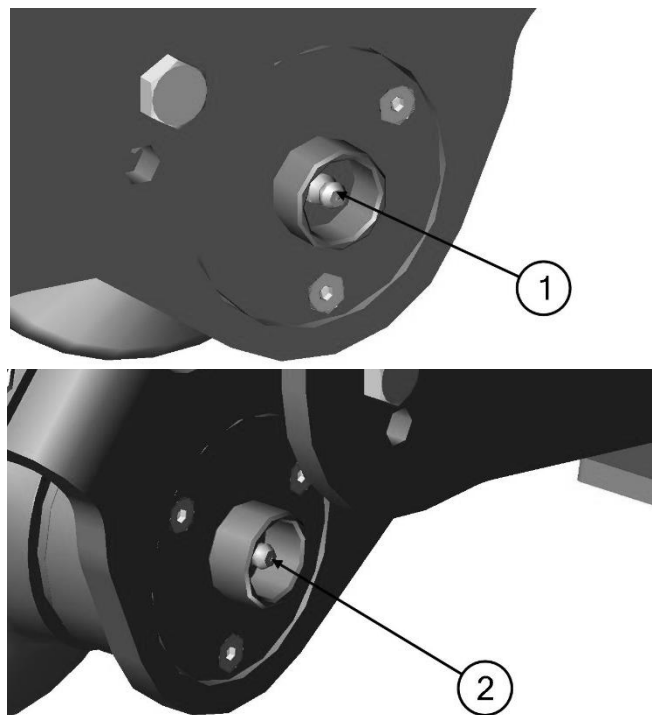

Figure 12
2. Inject grease into both grease zerks [Figure 12, Items 1 & 2].